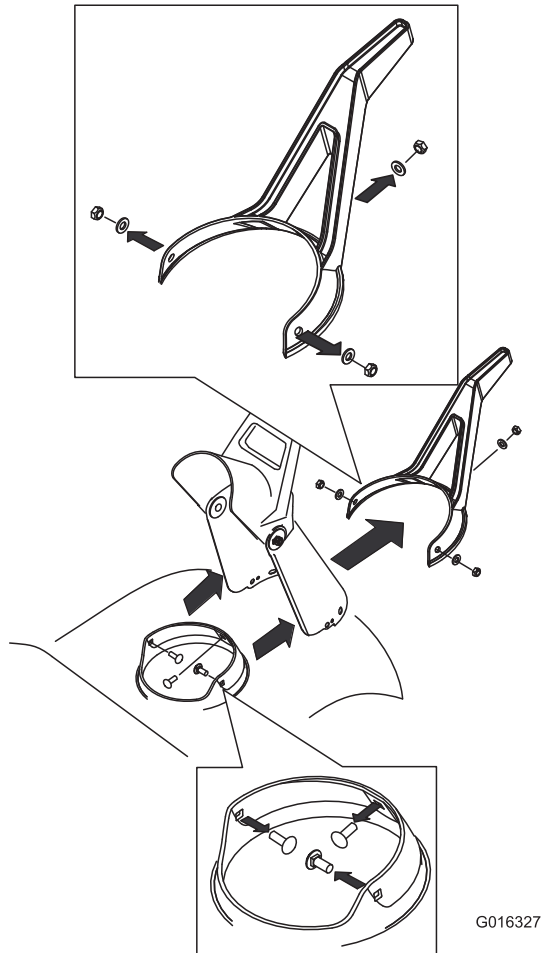

Figure 33
3. Remove the discharge chute by removing the 3 screws holding the chute and the screws holding the chute seal (Figure 33).